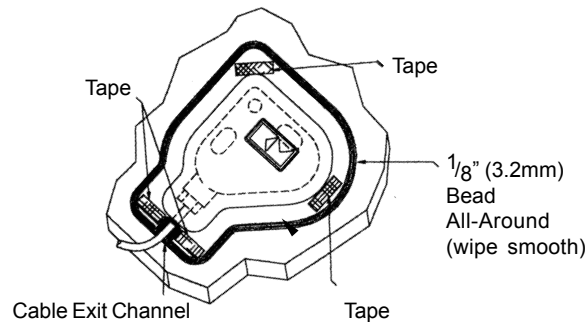

Figure 4-11. Environmental Cover
11. See Figure 4-11. Peel the protective backing from the double-sided tape on the environmental cover's inside flange.